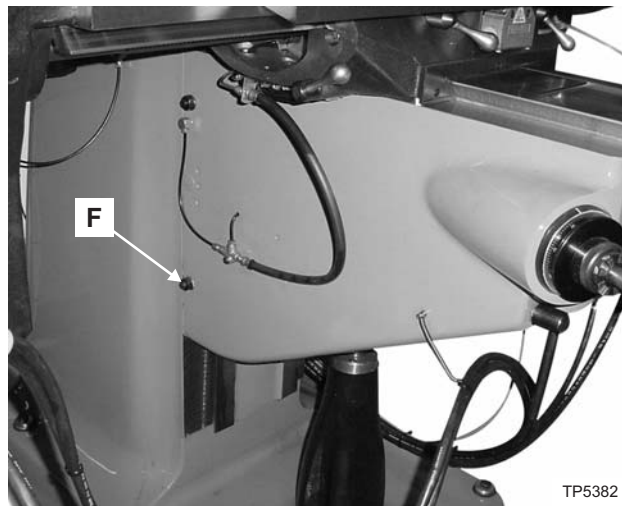

Figure 4.19 - Knee Gib Adjustment Screws
3. Loosen the jam nuts on gib adjustment screws "F", Figure 4.19.